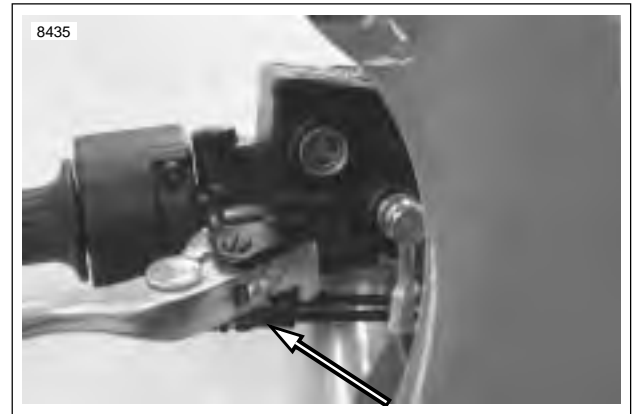

Figure 2-36. Brake Lamp Switch Connectors
4. See Figure 2-36. Verify brake lamp switch wires are tight.